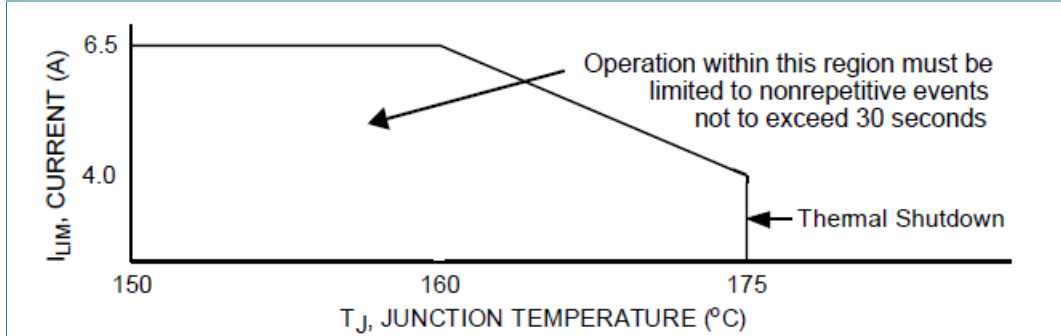
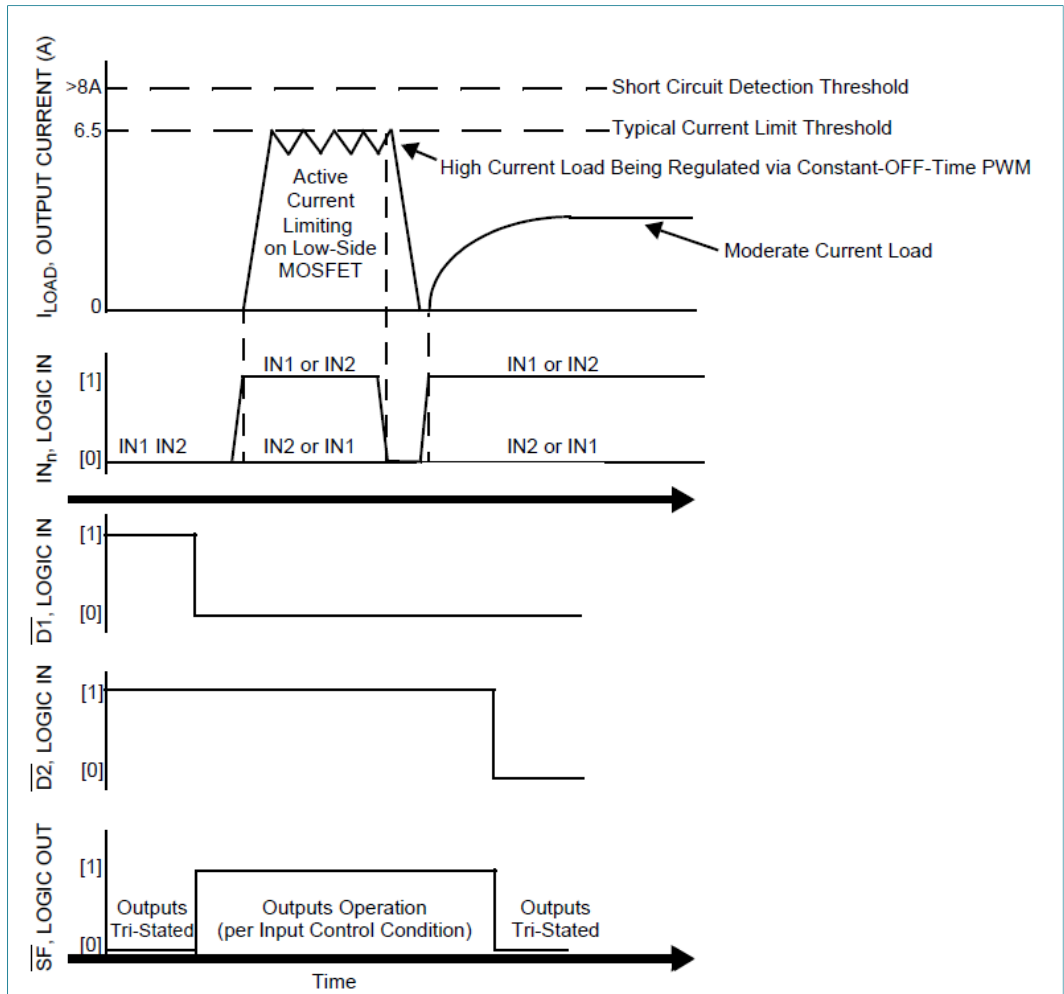
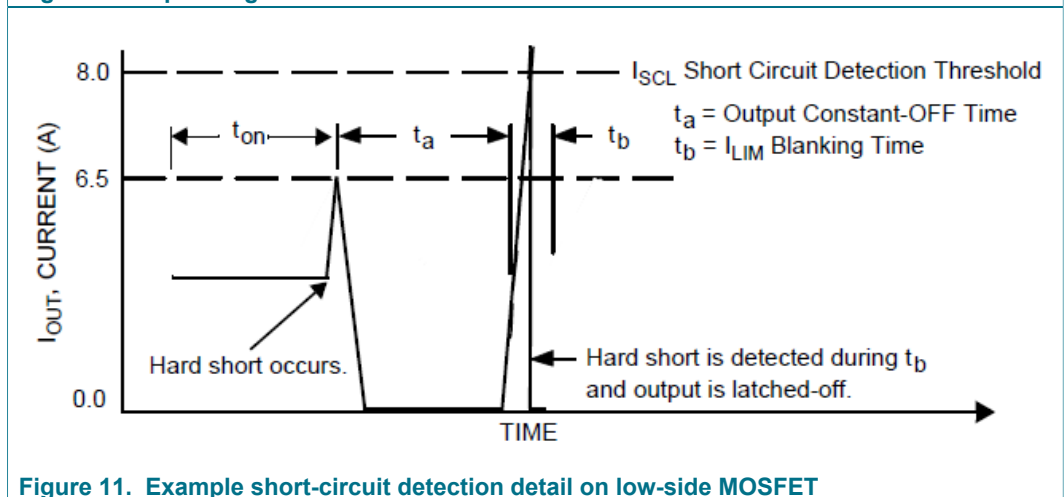

Figure 9. Active current limiting versus temperature (typical)
Figure 10. Operating states
Figure 11. Example short-circuit detection detail on low-side MOSFET
- [5] Load currents ramping up to the current regulation threshold become limited at the I_{LIM} value. The short-circuit current possess a di/dt that ramps up to the I_{SCH} or I_{SCL} threshold during the I_{LIM} blanking time, registering as a short-circuit event detection and causing the shutdown circuitry to force the output into an immediate 3-state latch OFF. See Figure 10 and Figure 11. Operation in current limit mode may cause junction temperatures to rise. Junction temperatures above $\sim 160\text{ }^\circ\text{C}$ causes the output current limit threshold to progressively foldback, or decrease with temperature, until $\sim 175\text{ }^\circ\text{C}$ is reached, after which the T_{LIM} thermal latch OFF occurs. Permissible operation within this foldback region is limited to nonrepetitive transient events of duration not to exceed 30 seconds. See Figure 9.
A disable timer (time t_b) used to detect currents that are higher than current limit is activated at each output activation to facilitate hard short detection (see Figure 11).
The maximum current flow under normal operating conditions is internally limited to I_{LIM} (5.2 A to 7.8 A). When the maximum current value is reached, the output stages are 3-stated for a fixed time (t_a) of 20 μ s typical. Depending on the time constant associated with the load characteristics, the current decreases during the 3-state duration until the next output ON cycle occurs (see Figure 11 and Figure 14).
The current limiting threshold value is dependent upon the device junction temperature. When $-40\text{ °C} \leq T_J \leq 160\text{ °C}$, I_{LIM} is between 5.2 A to 7.8 A. When T_J exceeds 160 °C, the I_{LIM} current decreases linearly down to 4.0 A typical at 175 °C. Above 175 °C the device overtemperature circuit detects T_{LIM} and overtemperature shutdown occurs (see Figure 9). This feature allows the device to remain operational for a longer time but at a regressing output performance level at junction temperatures above 160 °C.